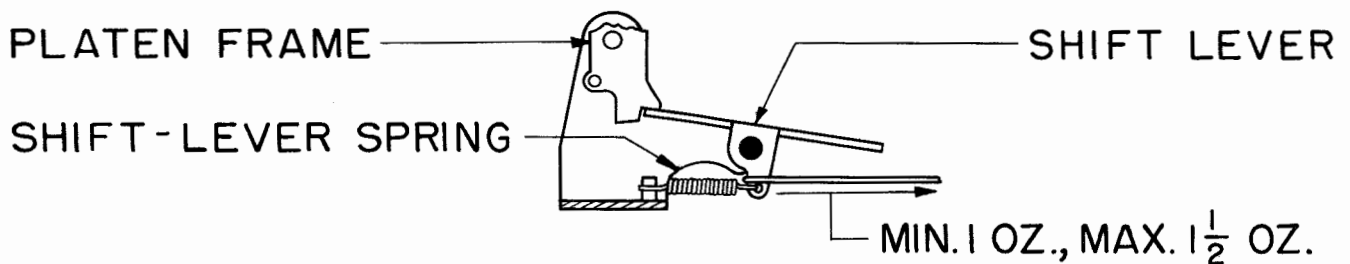

Figure 36
2.54 Shift-lever Spring: It shall require a pull as indicated in Figure 36 to just start the lever moving with the platen frame held clear of the lever.